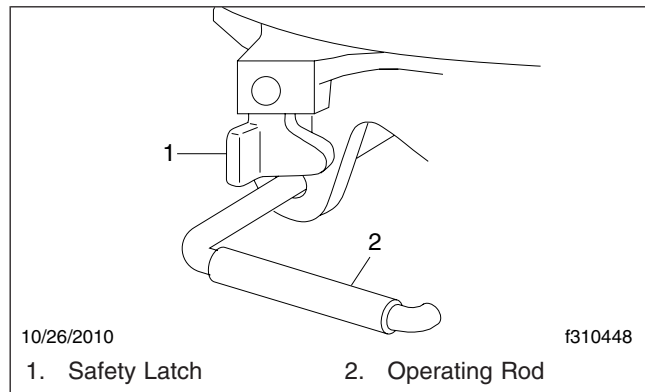

Fig. 10.12, Simplex Kingpin Locking Mechanism, Safety Latch (locked position)
During coupling, the kingpin contacts and rotates the jaw into the locked position. This action automatically moves the operating rod into the locked position. This securely locks the jaw around the kingpin. In the locked position the safety latch swings freely over the operating rod. See Fig. 10.12.
7. Make a visual check (even if equipped with the Touchloc air-operated system) for positive kingpin lockup. The trailer bed plate must be flush on the fifth wheel plate surface. When positive lockup has occurred, the fifth wheel operating rod will have moved inward to the locked position, and the safety latch will swing freely over the operating rod. See Fig. 10.12.